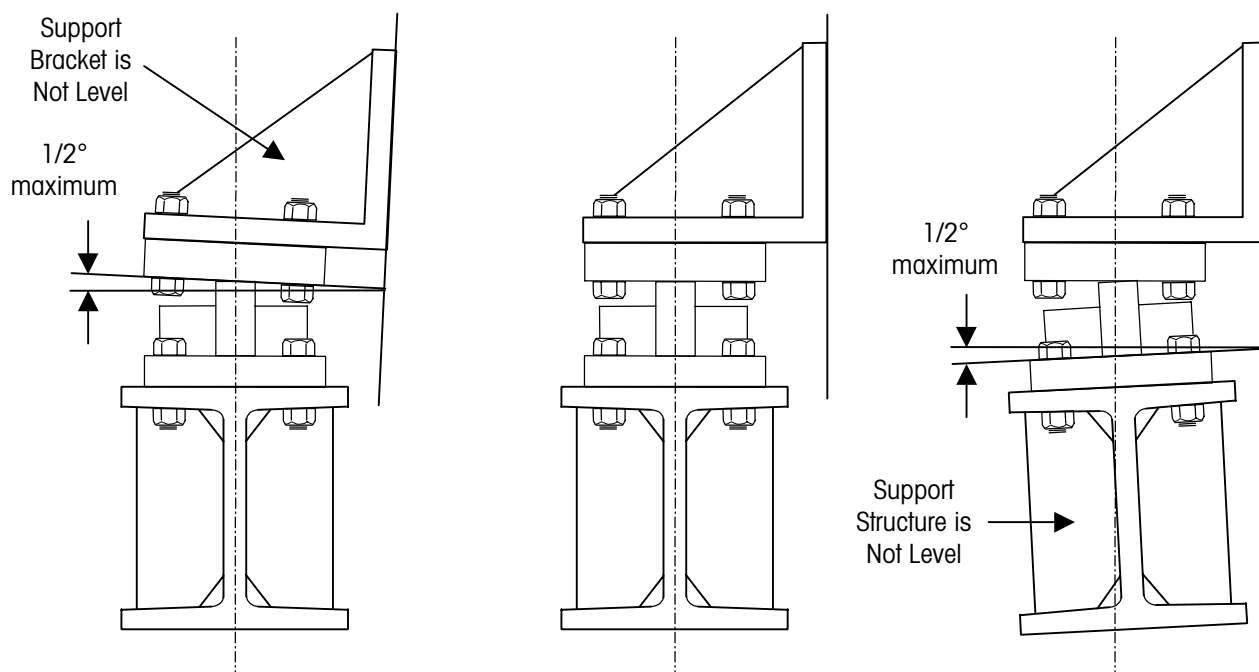

Figure 3-2: Maximum Amount that a Mounting Plate can be out of Level
2. Level each weigh module so that each mounting plate (top and base plate) is within $1/2^\circ$ of level in both longitudinal and lateral directions (see Figure 3-2).